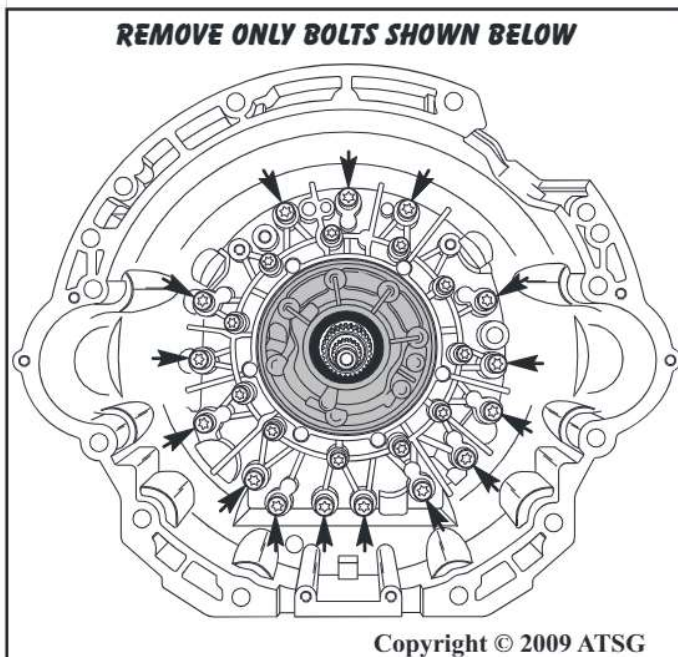

Figure 49
26. Remove the remaining 15 converter housing to case bolts from inside the converter housing, as shown in Figure 49 and 50, using 40 Torx bit.
- Note:** Do not remove the circle of 30 Torx bolts shown in Figure 49. This is easier done in component rebuild.